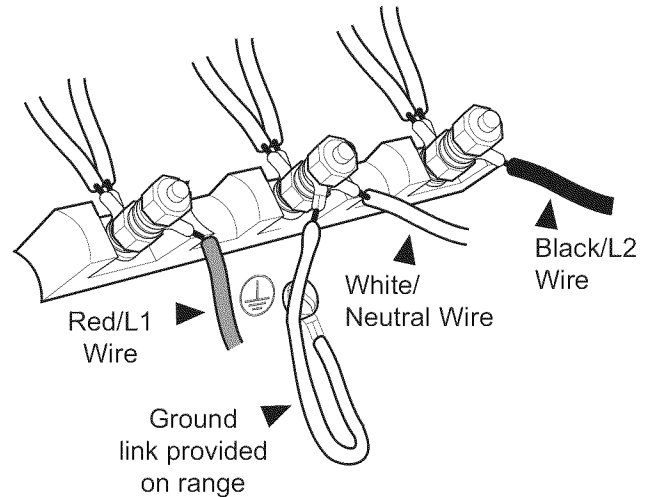

Figure 14: 3-Wire Connection
4. Secure the neutral, grounded wire of the supply circuit, to the center stud (silver colored) of the terminal block (see *Figure 14*).